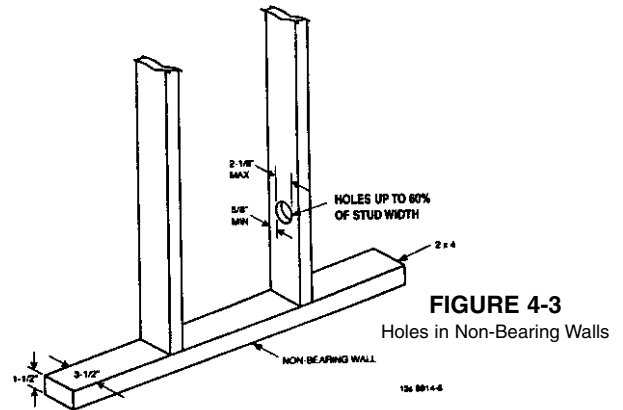

FIGURE 4-3
- Where holes are to be bored in non-bearing vertical members of the wall framing, the size of such holes shall not be larger than 60 percent of the width of the member. (See figure 4-3.)